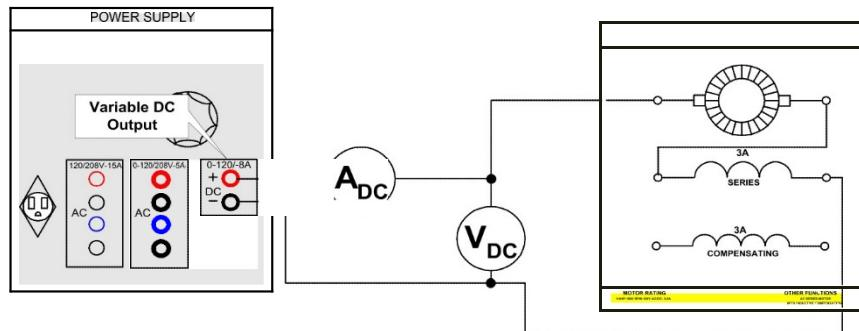

FIGURE 8.23
Step 25: Reconnect your circuit for DC operation as shown in Figure 8.23.
Step 30:a) Reconnect your circuit for DC operation as shown in Figure 8.23.